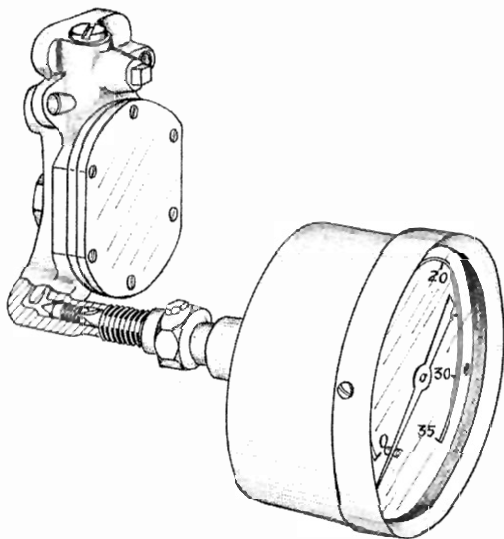

FIG. 30: PIN VALVE TEST GAUGE
This gauge is equipped with a screw driver adapter to permit adjusting the pin valve on most instruments without removing gauge from the pin valve opening. See Fig. 30.
3. Insert screw driver attachment into pin valve opening so that the bit engages the slot in the pin valve screw, with the rubber washer seated as in Fig. 30.